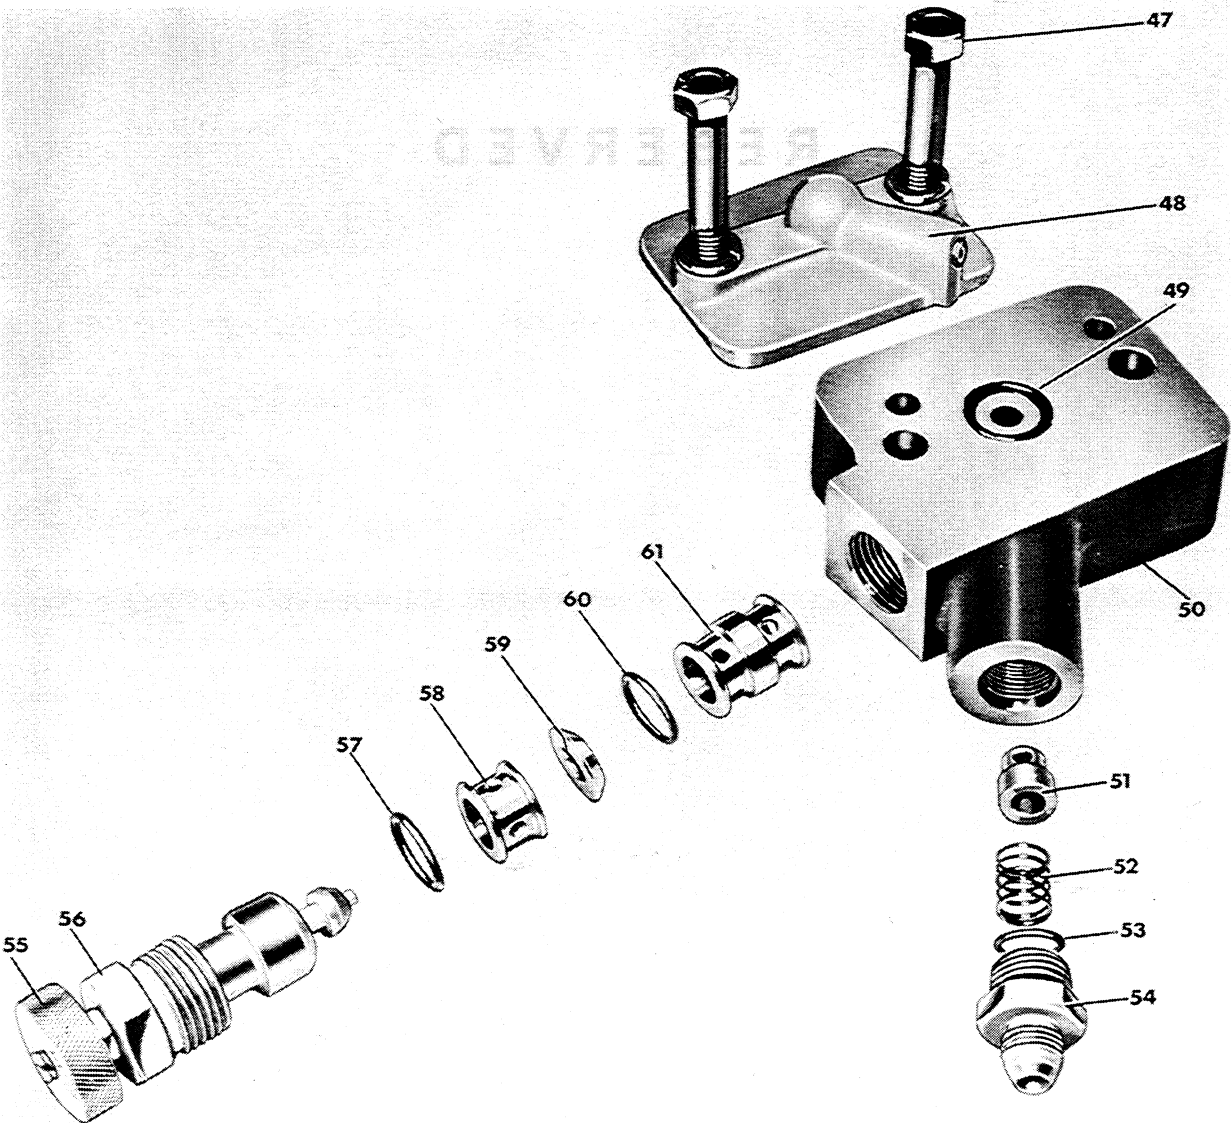

FIG. 8
2. Fig. 8. Remove the connector (54) 'O' ring (53), spring (52) and check valve (51) from the combining valve body (50).
3. Slacken the union nut (56), then remove the knob and guide assembly (55), 'O' ring (57) spacer (58) seat (59) 'O' ring (60) and distance piece (61).